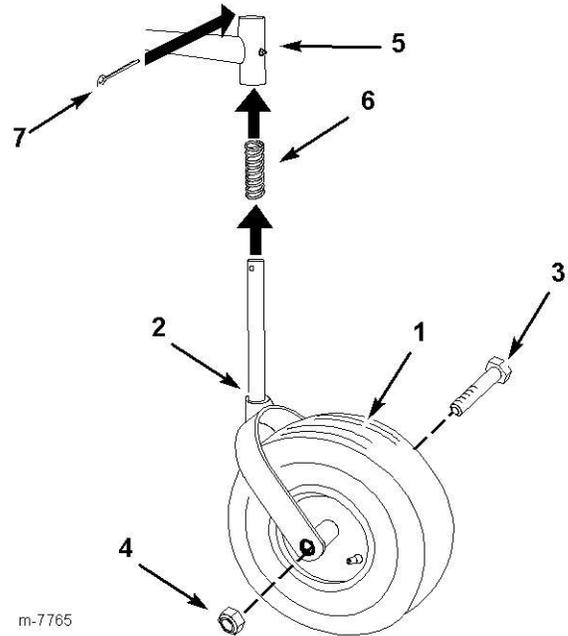

Figure 2
4. Install the wheel assembly to the long castor fork using an axle bolt (1/2 x 7-1/2 inch) and locknut (1/2 inch) (Fig 2).
5. Place the spring over the castor fork assembly shaft and install it to the straight castor arm. Secure the assembly to the arm with a cotter pin (Fig 2).
3. Install the wheel assembly to the short castor fork using an axle bolt (1/2 7-1/2 inch) and locknut (1/2 inch) (Fig 2).